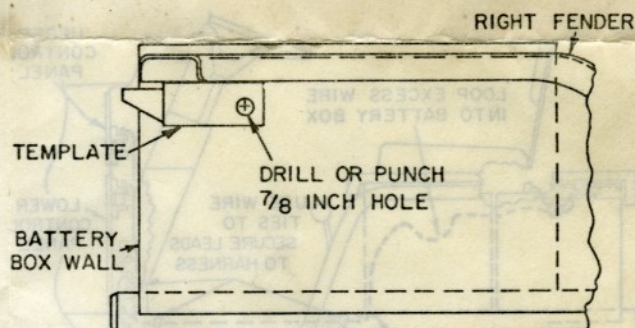

Figure 2
NOTE: If the 7/8-inch hole is pre-punched as shown in Figure 2, it may not be necessary to remove the batteries. Wires can be "fished" through the frame opening with a long, stiff, wire inserted from below the frame.
5. Locate and punch or drill a 7/8-inch hole in the side of the rear battery box with the template provided as shown in Figure 2. Remove any metal chips from inside the battery box.